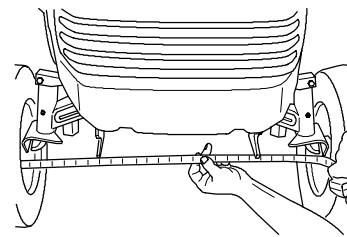

Figure 47
4. Measure the distance between both of the front tires at spindle level (at the front and rear of the wheels) (Fig. 47).